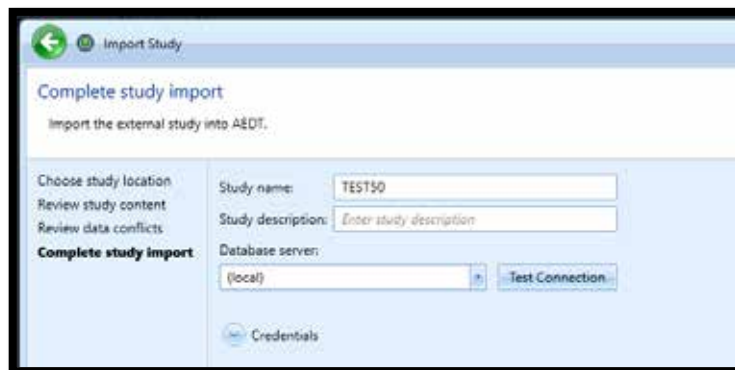

Figure 64. Complete study import
- In the *Complete study import* step, enter a unique *study name* (Figure 64).